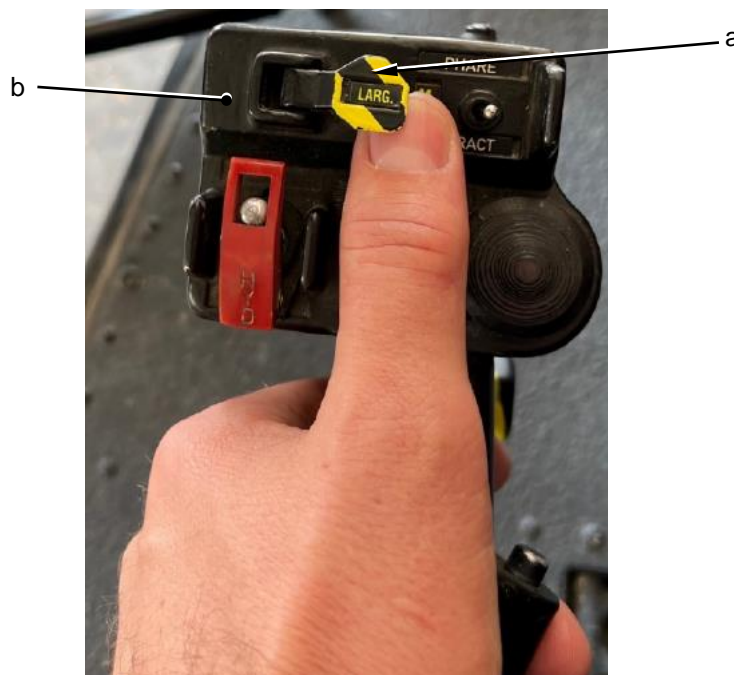

Figure 5 - Position of the thumb
- Put the thumb below the safety-cap (a) of the collective pitch handle (b), refer to Figure 5.